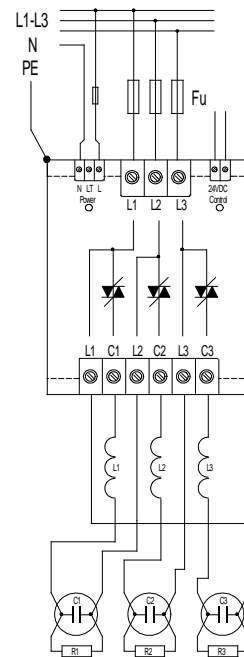

Fig. 8
- di/dt protective chokes of inductance 12 μ H if not using detuning reactors are connected between the switch and each capacitor (see Fig. 8). **But this wiring is not recommended for fast compensation systems!**